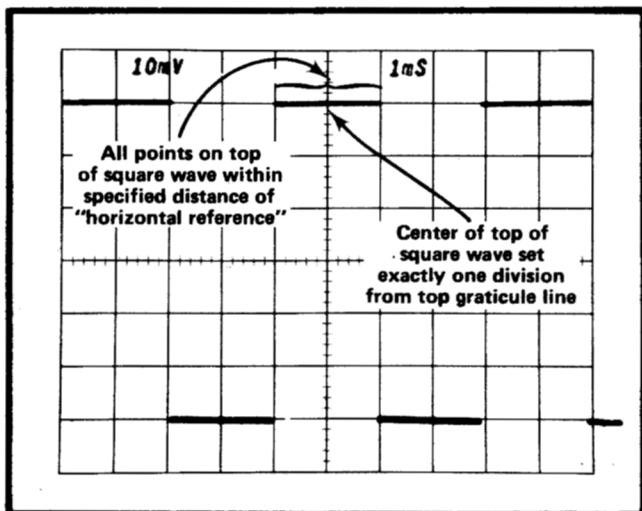

Fig. 5-14. Aberration check waveform; step 12.
g. Check the response of the Calibration Fixture at each setting indicated in Table 5-7. These will be used as reference waveforms against which the 7A11 response will be checked. The area to be observed is indicated in Fig. 5-14. Note any aberrations or deviations from flatness.
h. Select 250 Hz at the Type 106 Square Wave Generator and 1 ms at the Time Base. Then adjust the Type 106 Square Wave Generator + Transition Amplitude for exactly 6 divisions display amplitude. (7A11 at 10 mV.) Adjust the 7A11 POSITION control to align the center of the top of the waveform accurately with the horizontal line 1 division below the top of the graticule, as in Fig. 5-14. This horizontal line will be referred to as the "horizontal reference line" for the remainder of this step.
i. CHECK—250 Hz response. All points on the top of the square wave should be within 0.18 divisions of the horizontal reference line as in Fig. 5-14. (If the Calibration Fixture's 250 Hz waveform contained aberrations or deviated from flatness at any repetition rate, the Calibration Fixture waveform must be used as a reference at the corresponding repetition rate of the Type 106 Square Wave Generator.) Do not move the 7A11 POSITION control during this step after it has been set at the 250 Hz repetition rate.